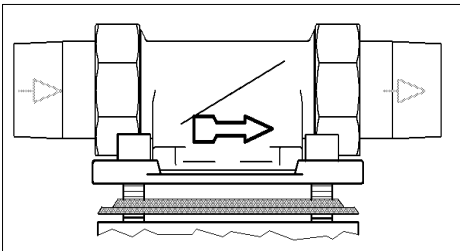

Fig. 2: Built-in rotary flange
- Direction of flow (see Fig. 2)